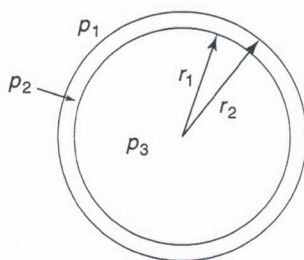

Figure 4.81
51. What is the pressure difference between the inside and the outside of a soap bubble? Hint: We can draw a soap bubble as shown in Figure 4.81. We write the liquid pressure within the film p_2 in terms of the atmospheric pressure p_1 . We subsequently can write the inside air pressure p_3 in terms of the pressure in the film. Taking the limit that $r_1 = r_2$ gives the final result.